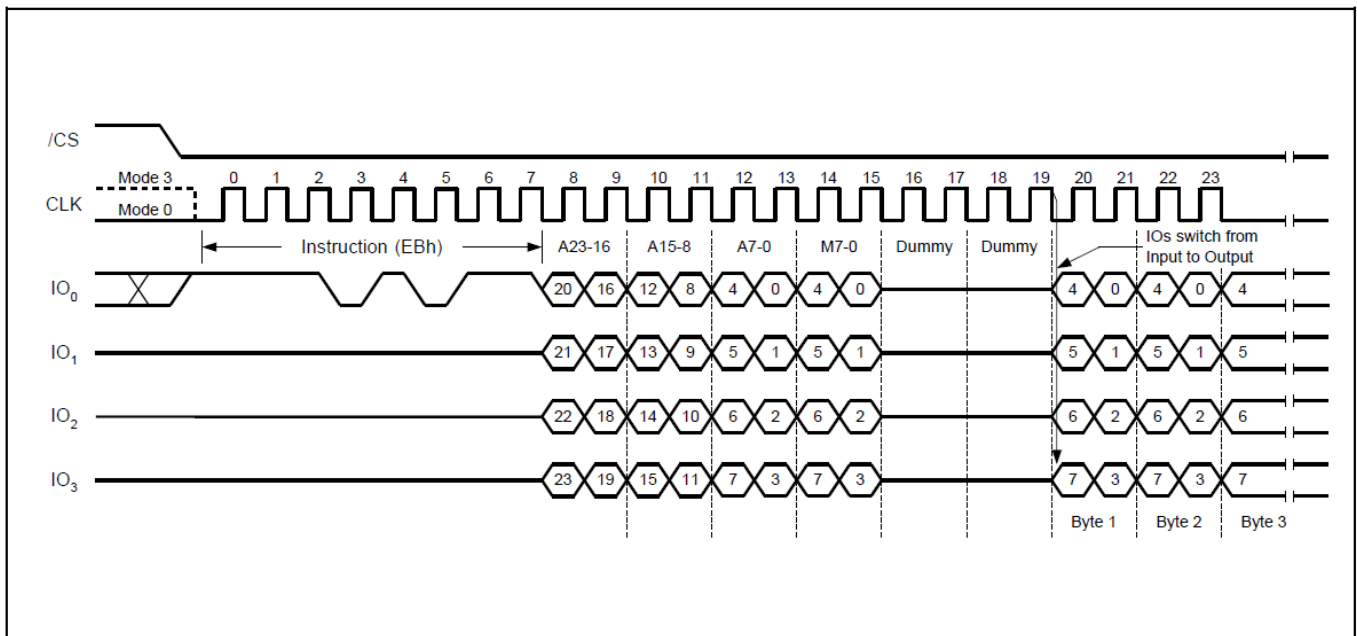

Figure11. Quad I/O Fast Read Sequence Diagram (M5-4≠(1, 0))
The Quad I/O Fast Read command is similar to the Dual I/O Fast Read command but with the capability to input the 3-byte address (A23-0) and a “Continuous Read Mode” byte and 4-dummy clock 4-bit per clock by IO0, IO1, IO3, IO4, and each bit is latched in on the rising edge of CLK, then the memory contents are shifted out 4-bit per clock cycle from IO0, IO1, IO2, IO3. The command sequence is shown in followed Figure11. The first byte addressed can be at any location. The address is automatically incremented to the next higher address after each byte of data is shifted out. The Quad Enable bit (QE) of Status Register (S9) must be set to enable for the Quad I/O Fast read command.